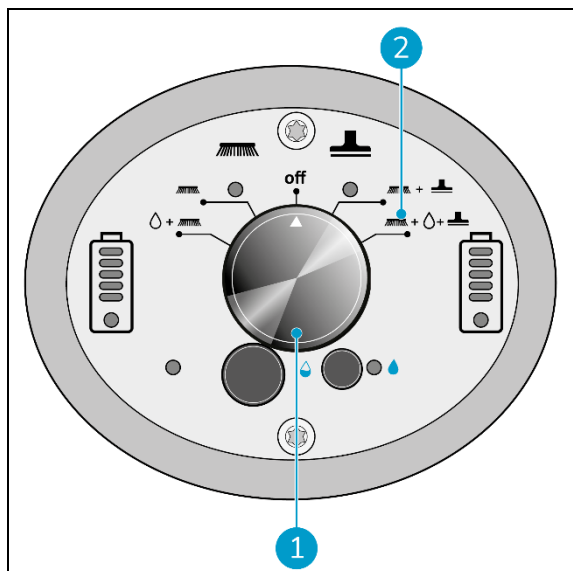

Figure 28
2. Use the i-mop® XXL Pro main switch (Figure 28, pos 1) and choose MODE 4 Brush + Water/Cleaning solution + Dry vacuum (Figure 28, pos 2).